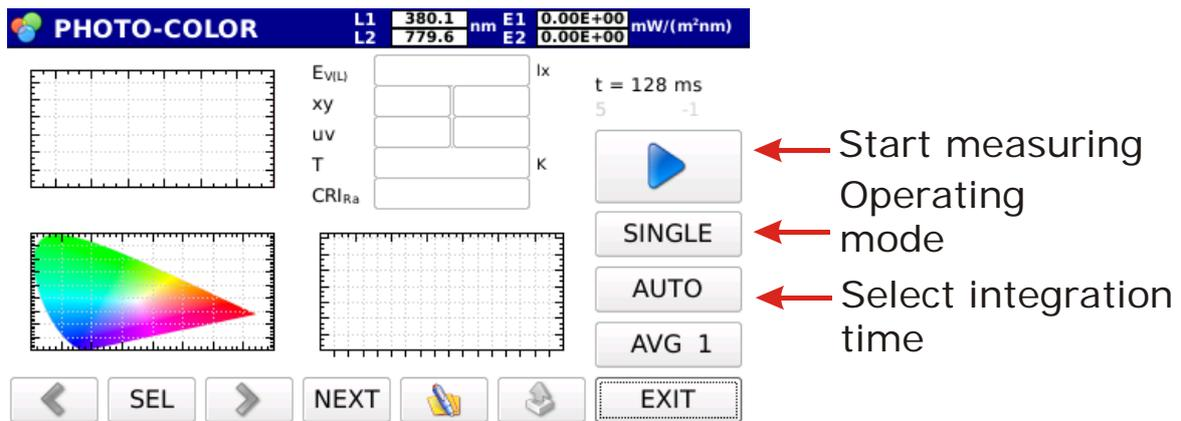

Figure 3.10: Photo\_color measuring mode startup screen
illuminance (Lux), trichromatic coordinates CIE 1931 (x, y) and CIE 1976 (u',v'), the Correlated Color Temperature CCT (K) and the Color Rendering Index CRI (the general index and the index of each of the 14 reference samples). By pressing the Photo-color button you access the screen in figure 3.10